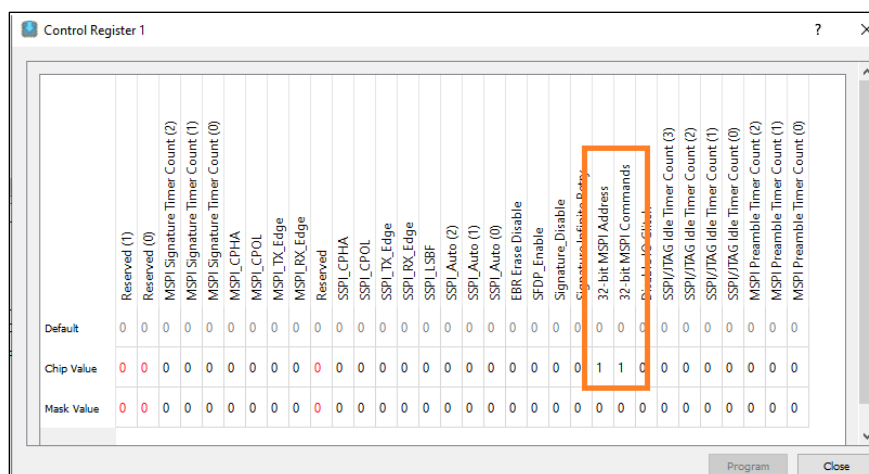

Figure 7.19. Settings to Select Chip Value
15. Change bit 0 to 1 for 32-bit MSPI Address and 32-bit MSPI Commands as shown in the Figure 7.19. For changing these bits, just click once on those 0 in the Chip Value row.